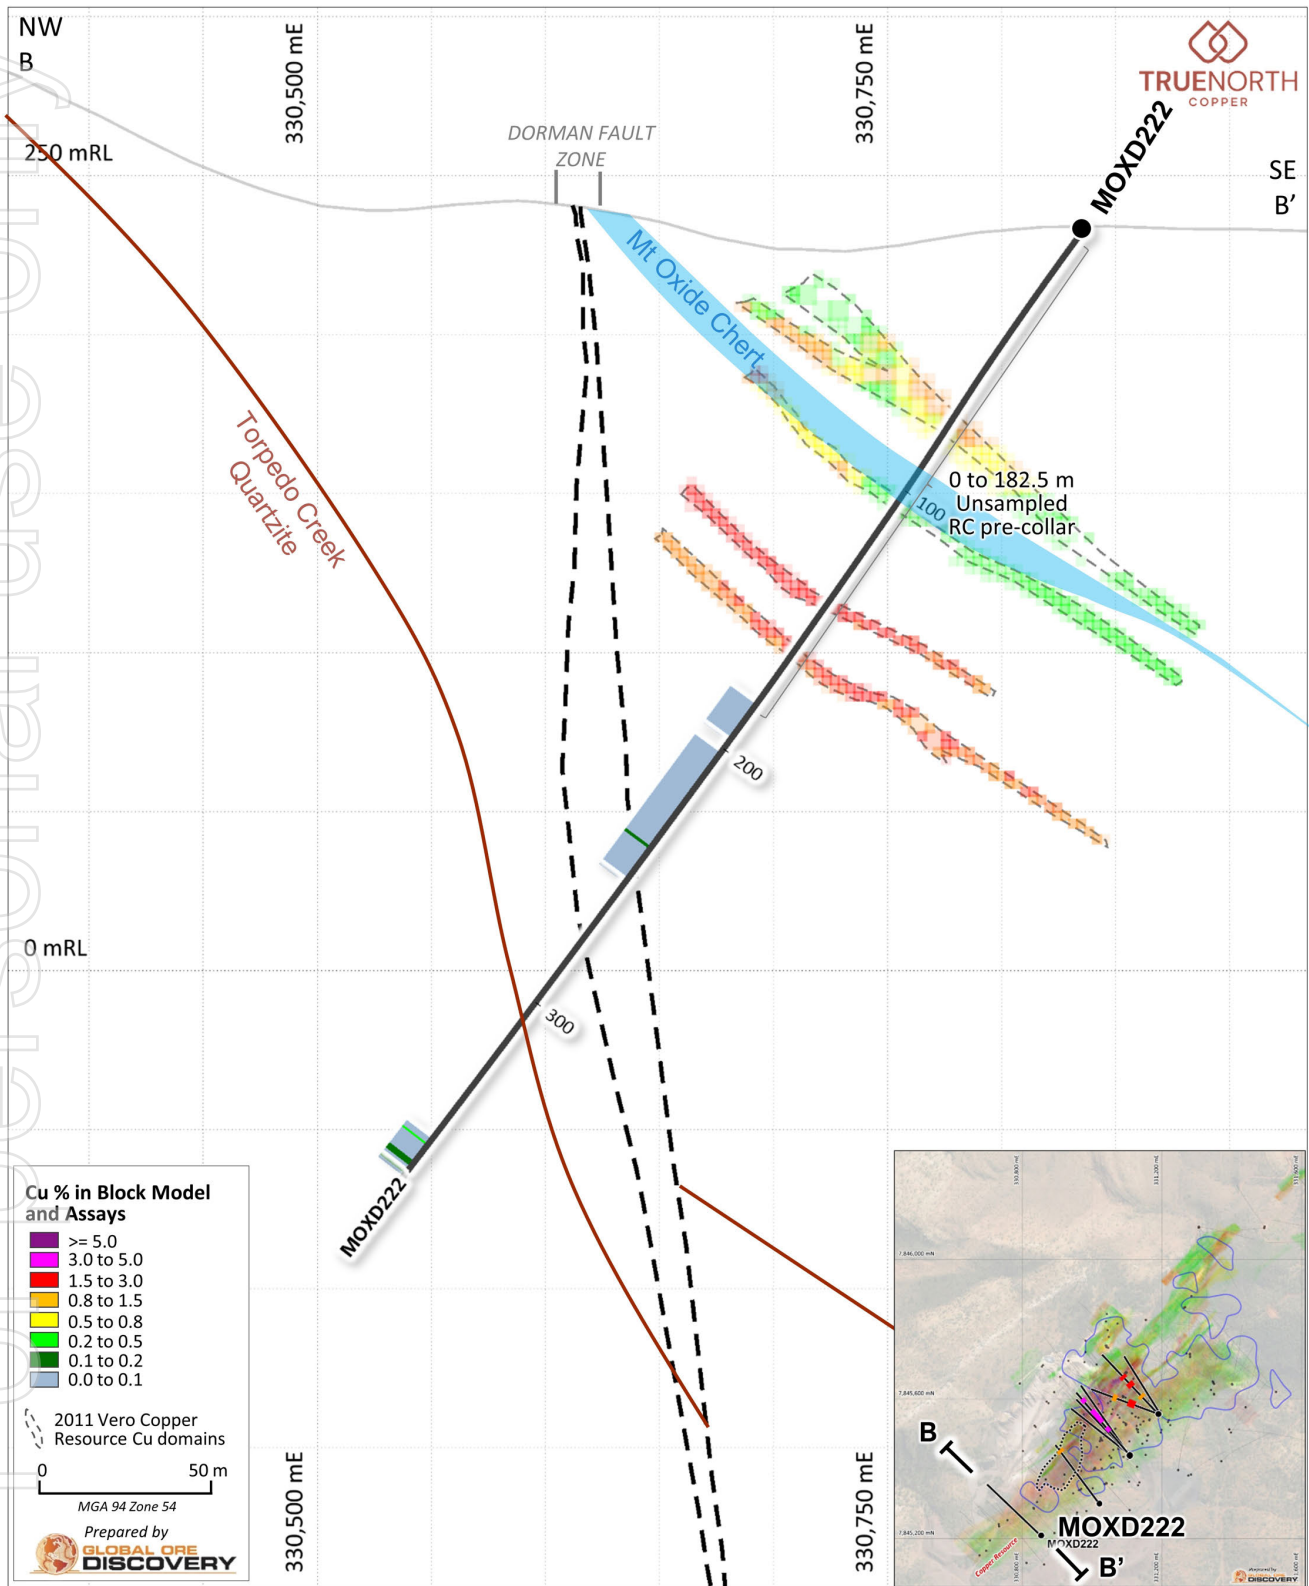

Figure 7. Cross section of MOXD222 (20m clipping window) showing copper assays downhole.
- **MOXD222** targeted southern extensions of the high-grade, steep dipping mineralisation (Figure 2 & Figure 7). The hole intercepted encouraging alteration and structures with moderate pyrite mineralisation and trace chalcocite that related to the Vero mineralisation highlighted the potential for the system to extend to the south.